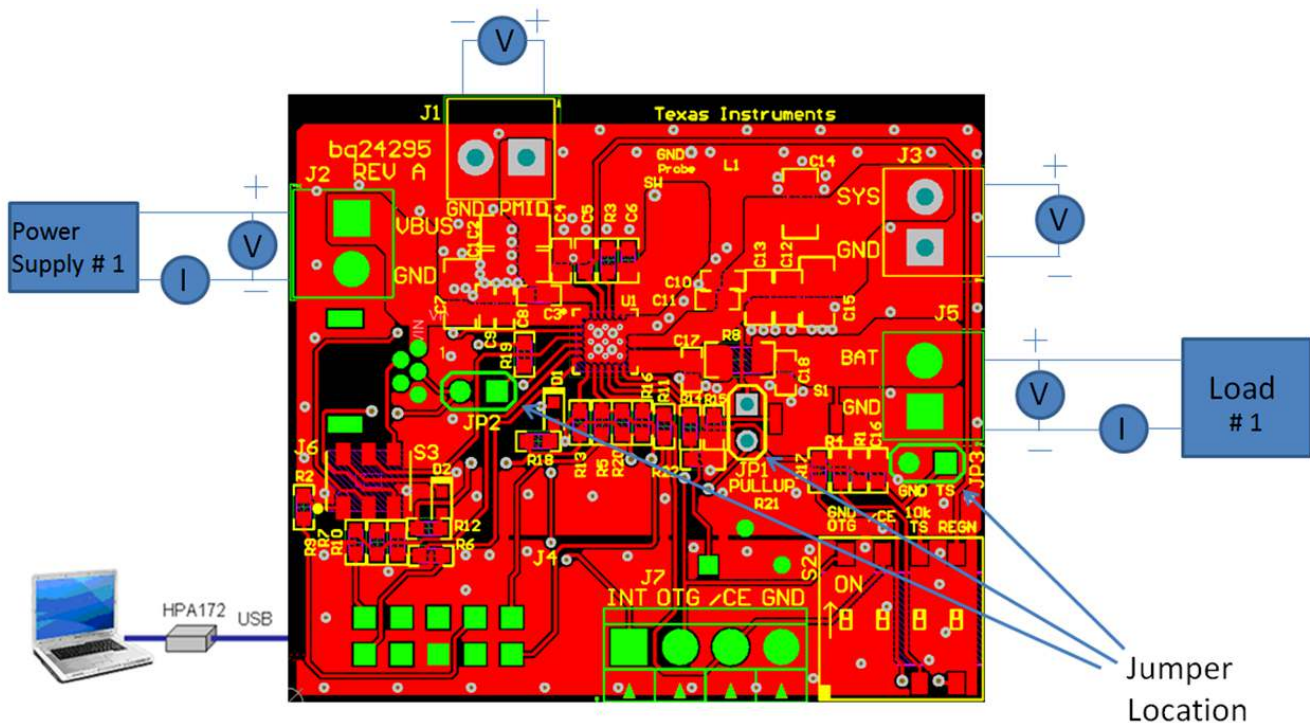

Figure 3. Original Test Setup for PWR549 (bq24295 EVM)
(B) Connect the output of PS#1 in series with a current meter (multimeter) to J2 (VBUS and GND), as shown in Figure 3.
(D) Turn on the electron Load, set to constant voltage mode and output to 2.5 V. Turn off (disable) Load. Connect Load to J5 (BAT+ and GND) as shown in Figure 3, via a current meter in the return line of the load. Connect a voltage meter across J5 (BAT+ and GND).